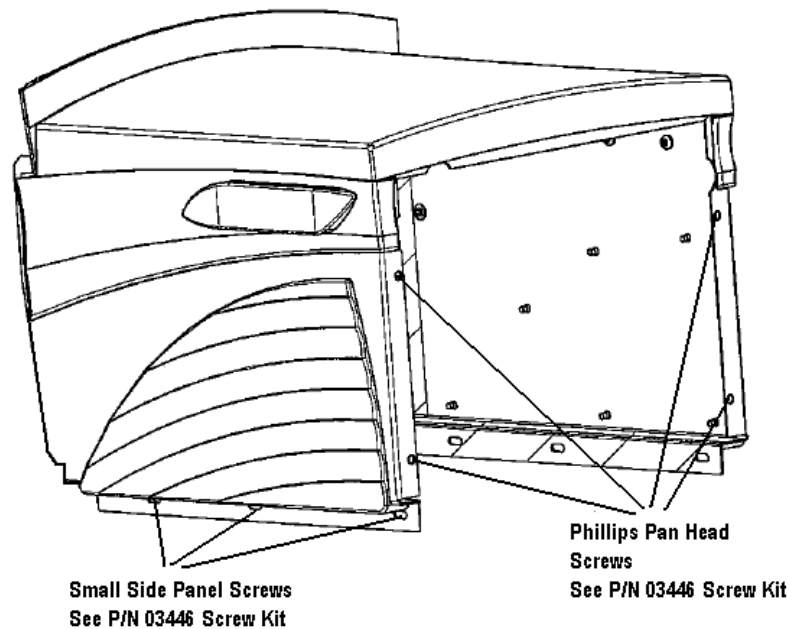

Figure 3.2 Top Cover Assembly
1. Remove the (2) Phillips pan-head screws in the top portion of the power cable guard at the rear of the unit (see figure 3.2)